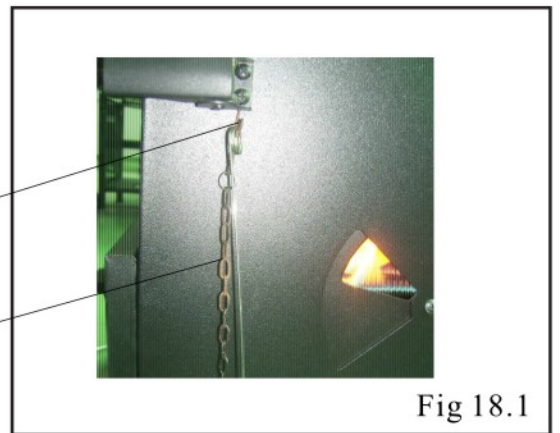

Fig 18.1
2. When lighting rod not in use, put it on the match clip hook. Fig 18.1